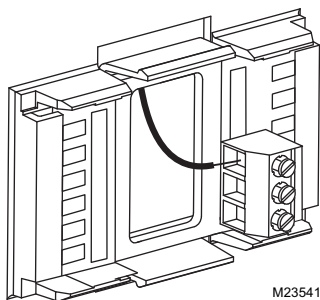

Fig. 9. Inserting wires in terminal block.
2. Loosen the screws for the appropriate system type selected; see Table 1. See Table 2 for terminal designation descriptions. Insert wires in the terminal block under the loosened screw. See Fig. 9.